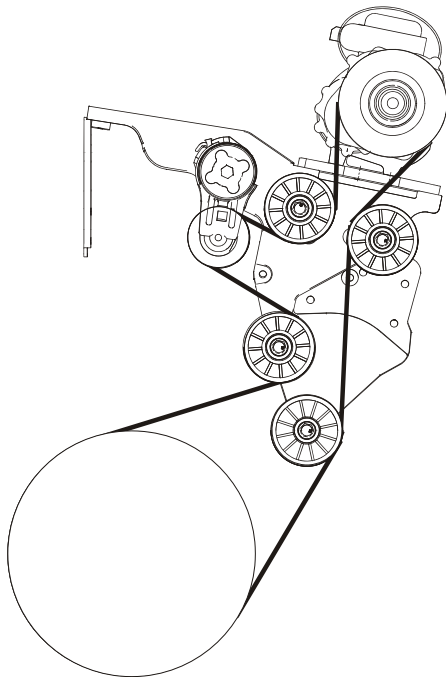

Figure 3.9
- Install the VR compressor belt (Figure 3.9). On the V900085 system this is a 6-rib belt. On the V910005 system this is an 8-rib belt.